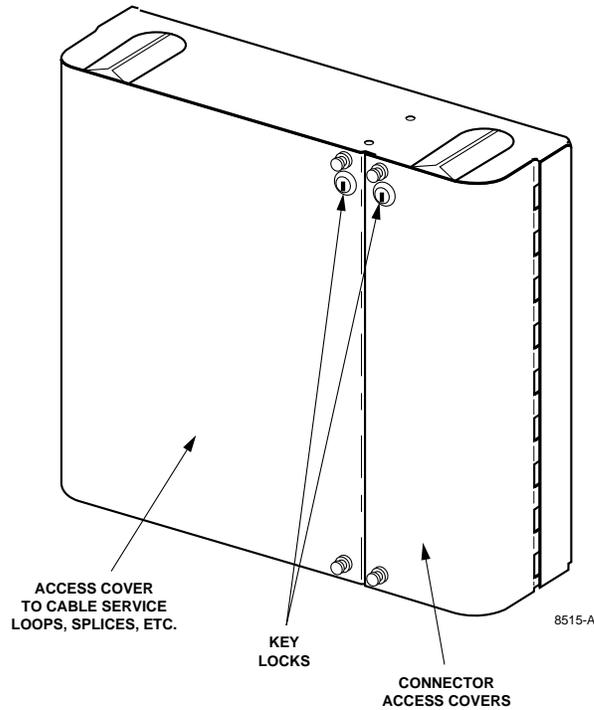

Figure 2. Wall Box Features
1.05 The wall box is 19 inches (48.26 cm) wide, 10 inches (25.4 cm) high, and 4.76 inches (12.1 cm) deep, and is constructed of heavy gauge aluminum, painted putty white. Both hinged front covers are equipped with pull handles and key locks. Some of the physical features of the wall box are pointed out in Figure 2.